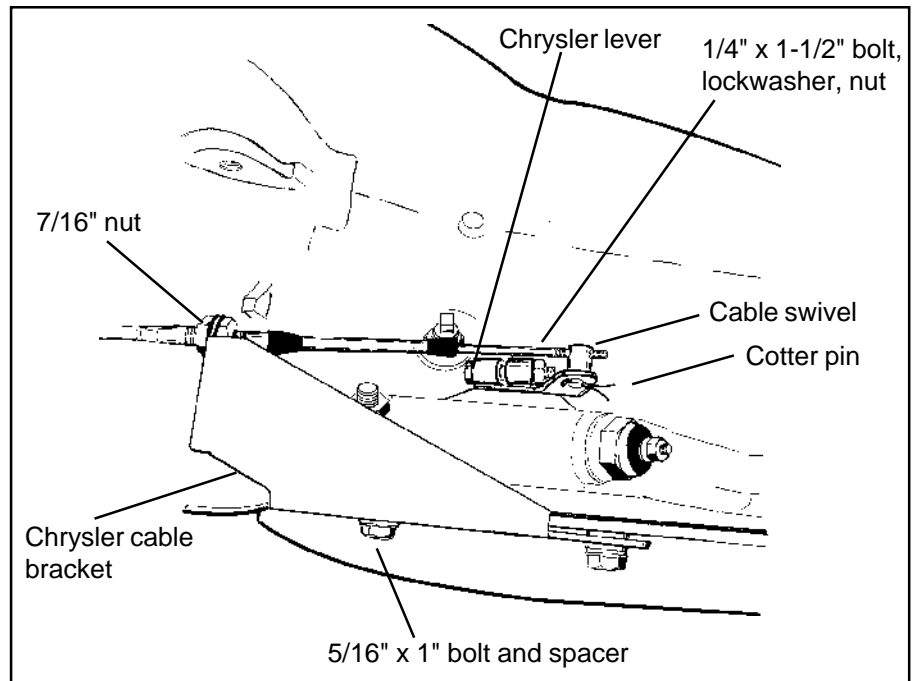

Figure 6
STEP 19. If you have not already done so, loosen the pinch bolt on the throttle lever on the transmission. This is the lever on the small diameter shaft. Pry the lever off with a screwdriver and allow the linkage to hang free. Remove and discard the stock shift lever and the stock shift linkage. Install the **B&M** selector lever in position and tighten the pinch bolt securely (See Figure 6). Make sure the lever is not pushed down so far as to touch the transmission case. This will cause the lever to bind on the case. The lever should travel smoothly from front to back with a positive click in each gear position. Install the stock throttle lever into position on the small diameter shaft as removed and tighten the pinch bolt securely. The throttle lever must operate smoothly.
bracket (See Figure 6). (If your transmission is equipped with a cast aluminum oil pan these spacers can be omitted). Install the two supplied 5/16-18 x 1.00" pan bolts and tighten to 12-13 lb. ft. Do not overtighten as this can damage the pan gasket.